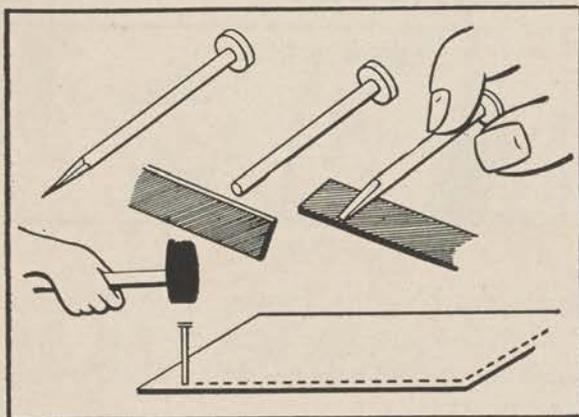

Figure 3.
a. A punch for use on leather or soft metal can be made from a large nail (fig. 3). Cut off the end